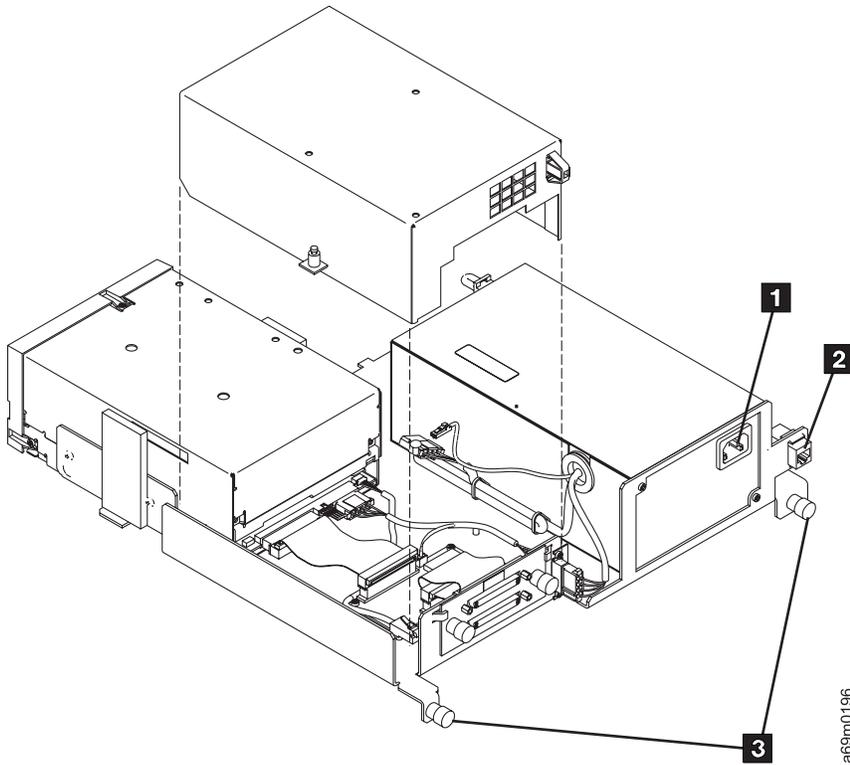

Figure 109. SCSI Drive Tray Assembly – Rear View
4. Refer to Figure 109 on page 586. Unplug the AC power cable **1** from the back of the drive tray.